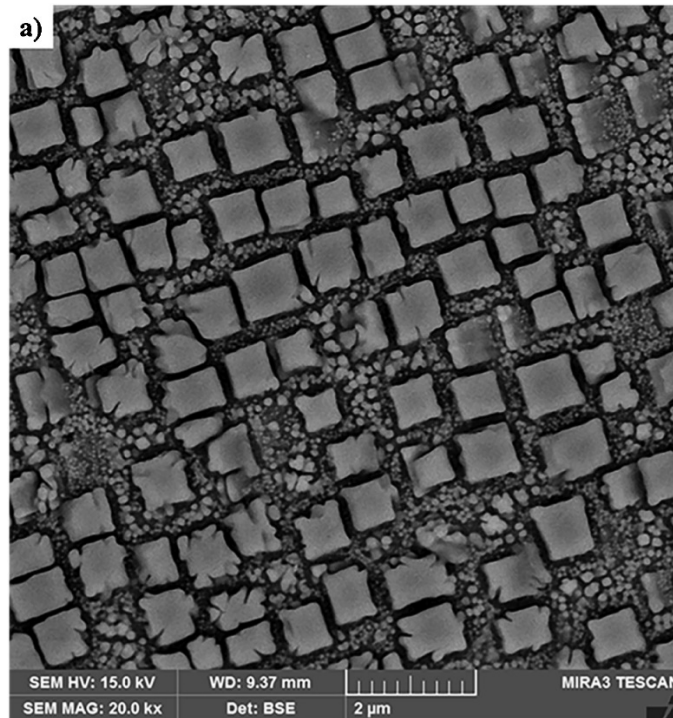

Figure 4. SEM – micrograph of IN-738LC after heat treatment
- e) Figure 4 shows a scanning electron micrograph of heat-treated IN-738LC with the typical γ - γ' microstructure.
- Explain the terms "primary γ' " and "secondary γ' " precipitates in the context of IN-738LC. Discuss their roles in strengthening the alloy and indicate where they can be observed in the micrograph shown in Figure 4. (3P)
Primary γ' : Coarse, provide long-term creep resistance. Visible as larger particles in Figure 4.